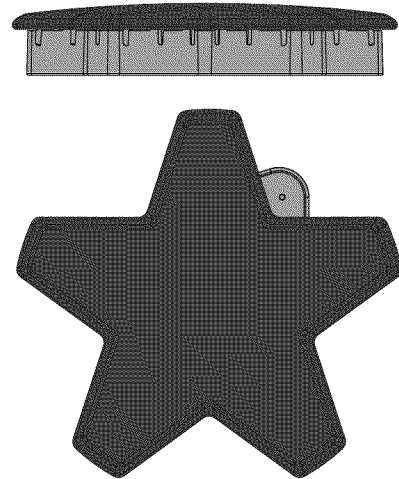

Figure 10 : Correct Burner Cap Placement
- Check each burner to make sure there is no gap between the burner cap and burner base. *See Figures 10 and 11: Correct and Incorrect Burner Cap Placement* to see examples of correct and incorrect placements of the burner cap.
- You may gently try to move the burner caps from side to side to check if the caps are properly placed on the burner bases. When properly placed, each burner cap will rest flat on top of its burner base, and completely cover the star-shape of the burner base when viewed from the top as shown in *Figure 10: Correct Burner Cap Placement*.